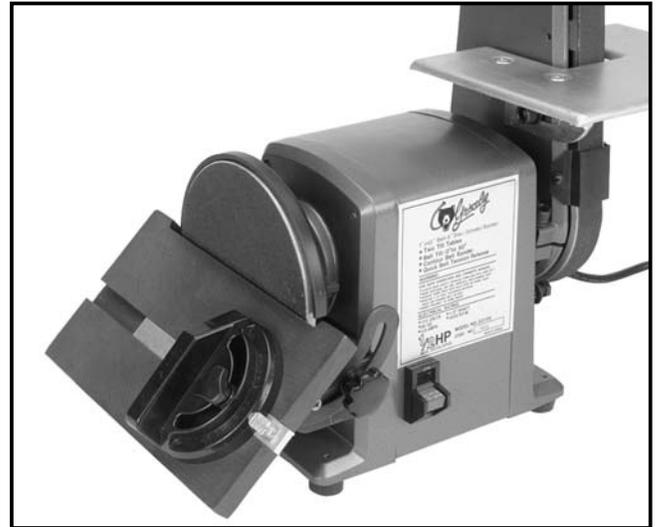

Figure 6. Sanding disc table in place.
4. Loosen the knobs to adjust the angle of the table. **Figure 6** shows the disc table at an angle.